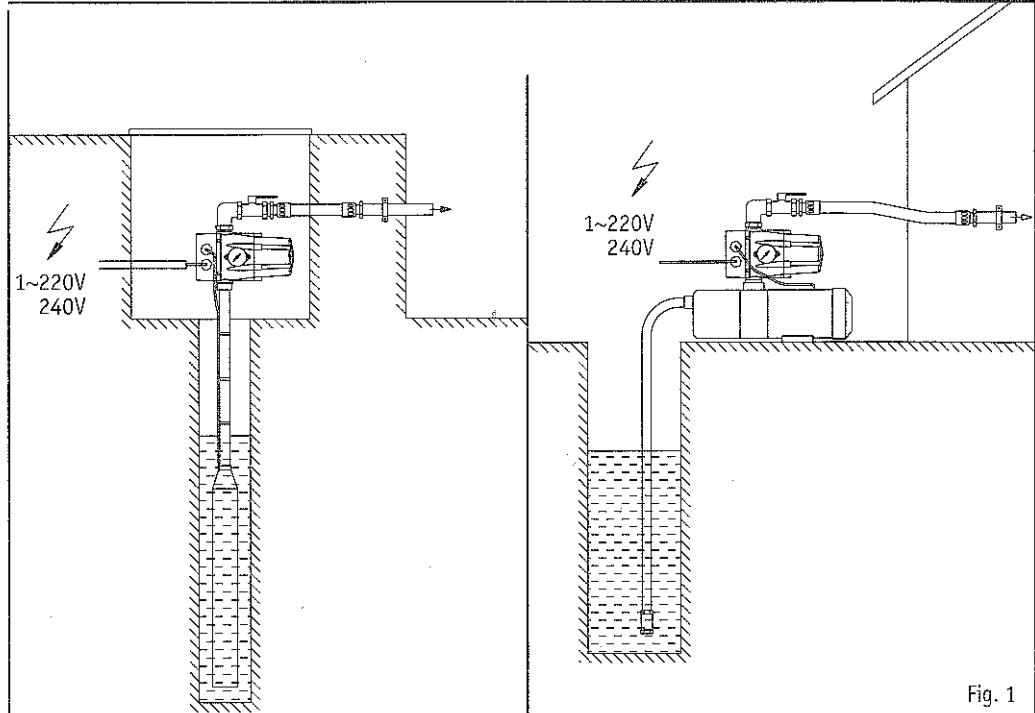

Fig. 1
## HYDRAULIC CONNECTION (fig. 1)
**COLLEGAMENTO IDRAULICO (fig. 1)**